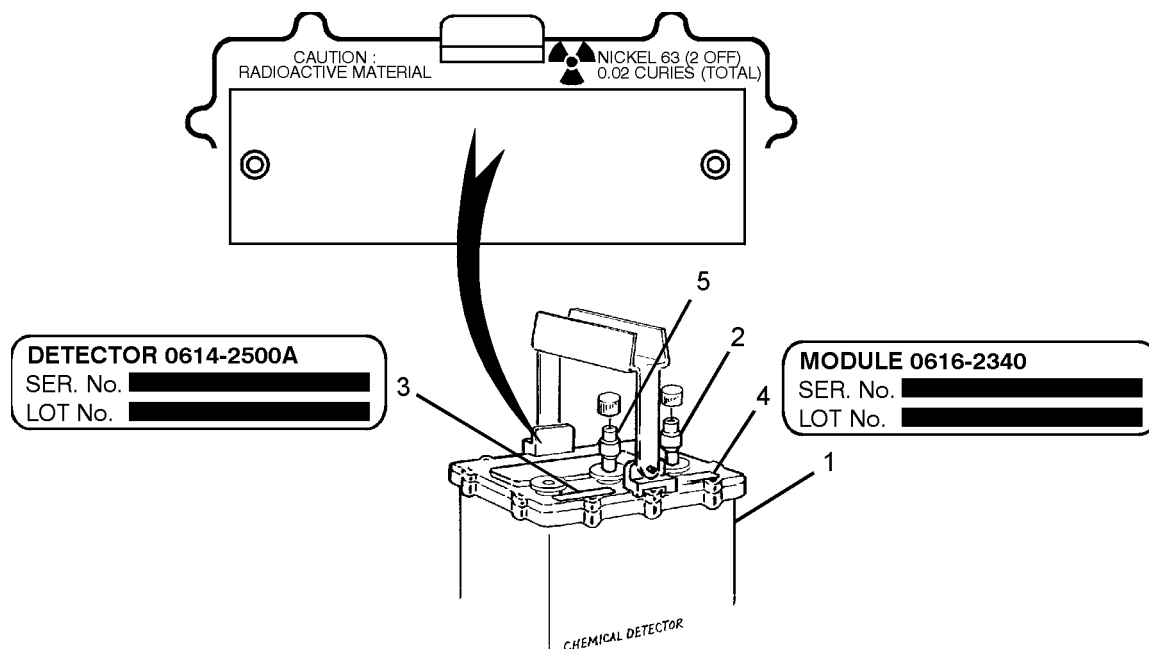

Figure 4-4.
The M88 Detector contains two identical, 10 millicurie (mCi) (370 Mbq), foil Nickel-63 radioactive sources, totaling 20 mCi (740 Mbq) per detector as indicated by radioactive material label located on the top of the detector (figure 4-4).
4.16.1.4 **Detector number.** Detector serial number and lot number (Figure 4-4, Item 3).
4.16.1.5 **Module number.** Module serial number and lot number (Figure 4-4, Item 4).
4.16.2.4 Wipe the exterior top surface of the M88 (Figure 4-4, Item 1) and around the inlet (Figure 4-4, Item 5) and outlet nozzles (Figure 4-4, Item 2) with wipe disk.